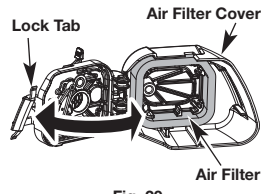

Fig. 20
- Open the air filter cover by pressing the lock tab in and pulling out on the air filter cover (Fig. 20).
- Remove the air filter (Fig. 20).
- Replace the air filter into the air filter cover (Fig. 20).
- Close the air filter cover by swinging it to the left and then pressing it down until the lock tab snaps into place (Fig. 20).